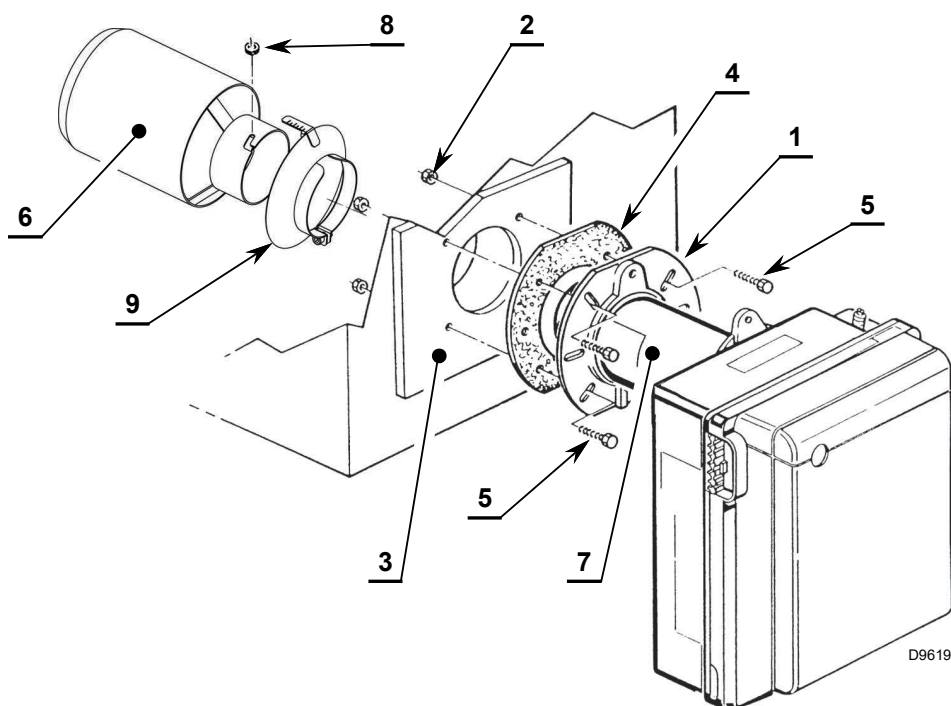

Fig. 10
- Fix the flange 1) to the boiler door 3) using screws 5) and (if necessary) nuts 2) interposing the insulating gasket 4)(Fig. 10).
- Fit the recirculation pipe 6) onto the burner blast tube 7) and secure it with the nut 8)(Fig. 10).